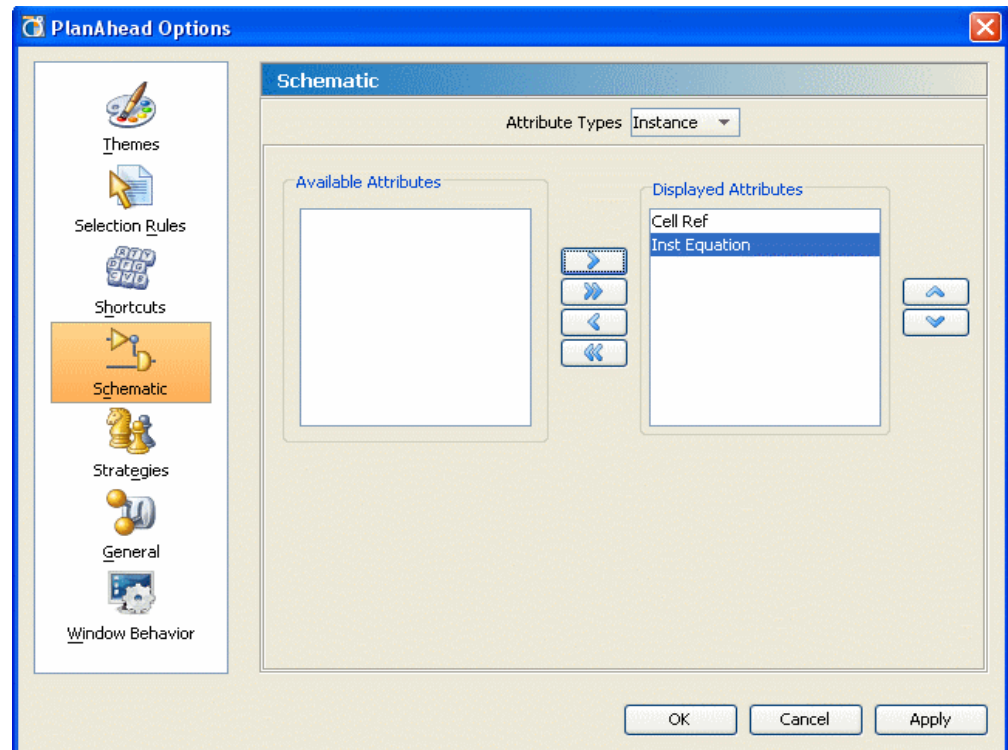
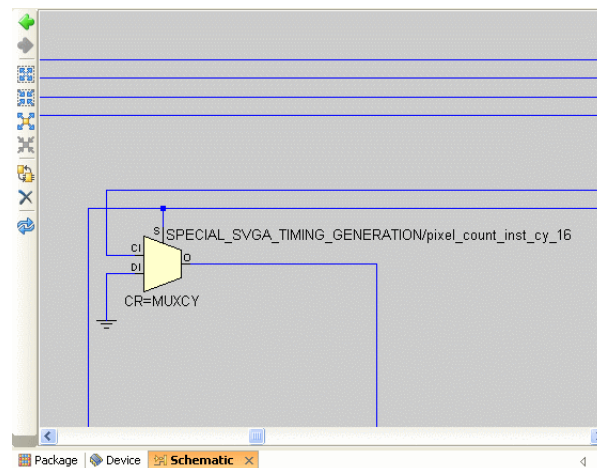

Figure 4-54: PlanAhead Options: Schematic Instance Annotation
Figure 4-55: Annotated Instances in the Schematic View
The PlanAhead Options dialog box is available by selecting **Tools > Options > Schematic**. Figure 4-54 shows the Schematic options in the PlanAhead Options dialog box.
2. Select from the **Available Attributes** to annotate on the left side of the dialog box, shown in Figure 4-54, and use arrows to move them to the right side labeled **Displayed Attributes**, and click **OK**. Figure 4-55 is an example of the resulting instance annotation.